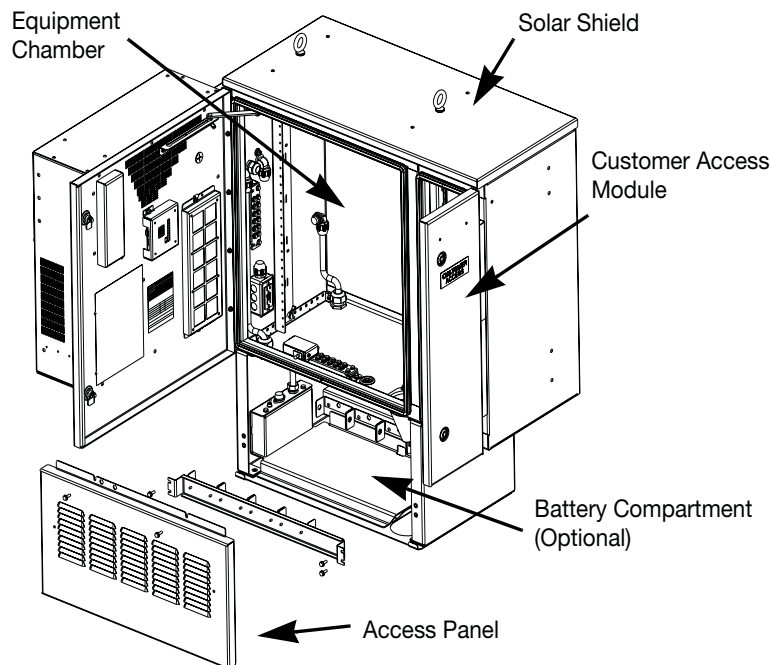

Fig. 2 : MESA[®] SOLE Exploded View
2.1.4 The MESA[®] SOLE cabinet provides a sealed internal environment where outside air and humidity are totally isolated from the electronic equipment. Refer to Fig. 2 for an exploded view of the cabinet.